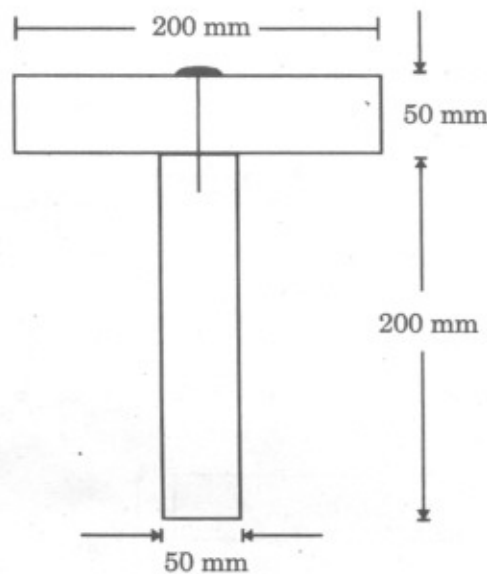

Fig. 5.1
5. (a) A beam of T cross-section is formed by nailing together two boards having the dimensions as shown in Fig. 5.1. If total shear force acting on c/s is 1800 N and each nail can carry 800 N in shear, what is the maximum allowable spacing.